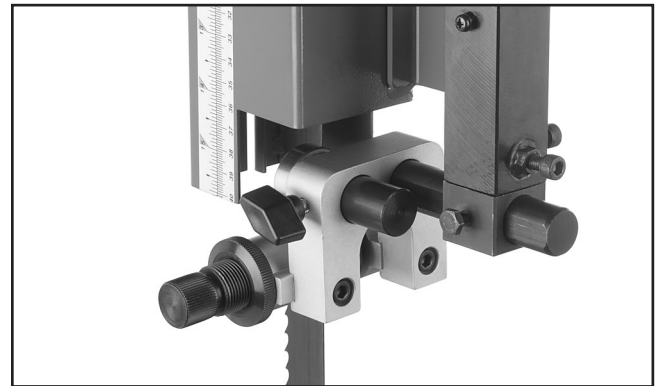

Figure 6. Upper guide assembly installed onto guide post.
- Insert the upper guide block into the guide post, with the blade between the blade guides, then secure with the cap screws loosened in **Step 2** (see **Figure 6**).